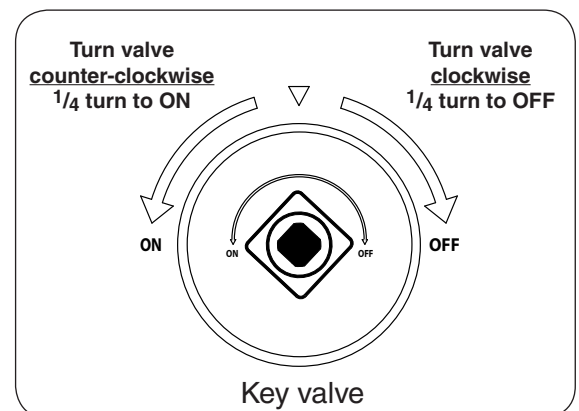

Fig. 31-2
4. **Once the match is burning and in position**, turn the key valve counter-clockwise a $\frac{1}{4}$ turn to the **ON** position (see Fig. 31-2). Your burner should light.
To extinguish your gas burner, turn the key valve clockwise a $\frac{1}{4}$ turn to the **OFF** position (see Fig. 31-2). Be sure the key valve is turned fully off to avoid any gas leakage.